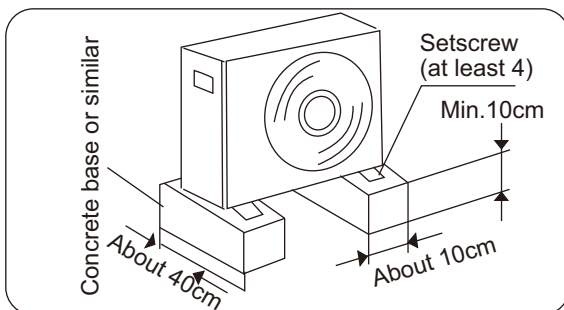

Fig.7.2
- Make a strong base (10X40cm² board made of concrete or similar). The appliance should be placed not less than 10 cm high to avoid being wet or corroded. Otherwise, it may cause damage to the appliance or reduce its life time. (Fig 7.2)